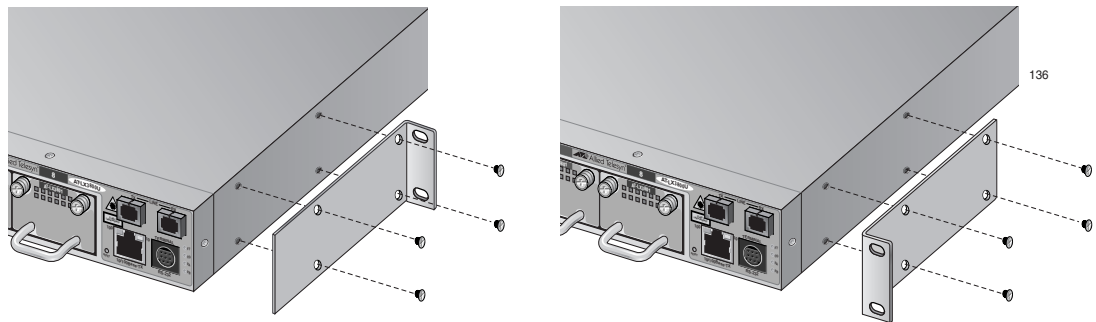

Figure 20. Rack-Mount Bracket Configurations
4. Install a bracket on one side of the chassis using a Phillips screwdriver and four of the rack-mount screws included with the unit. There are two ways that you can attach the brackets to the chassis: so that it extends forward from the rack, or flush with the front of the rack, as shown in Figure 20.